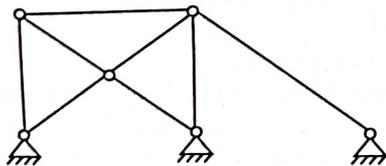

Fig. 10.93.
21. In the Fig. 10.93, the degree of internal indeterminacy is